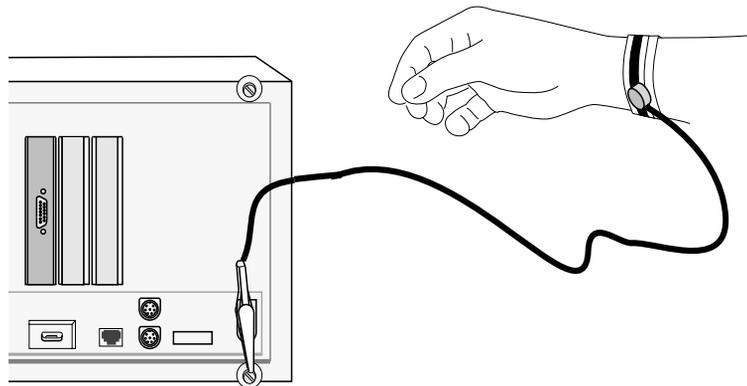

Figure 2-2 ESD wrist strap
3. Put on a wrist strap and attach the ground clip to the computer's chassis as shown in Figure 2-2.